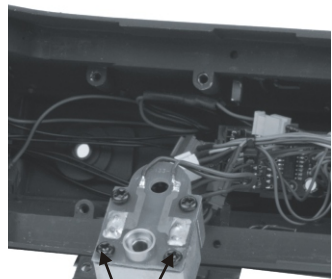

Figure 17
7. Once the unit is freed, remove the inspection cover (Fig. 17). Inspect the wick; if it is darkly discolored and hard, it should be replaced.